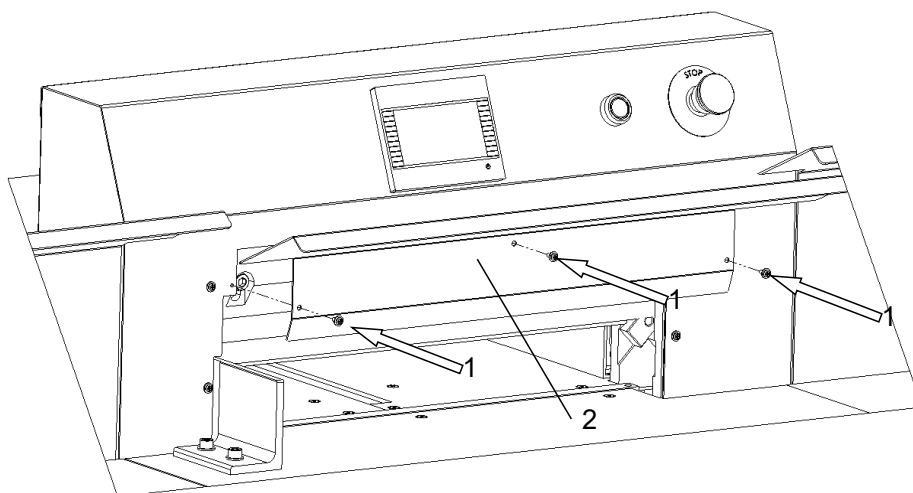

Figure 34.
**8.1.2.22** Attach cover 2 with the screws 1 (fig.34)